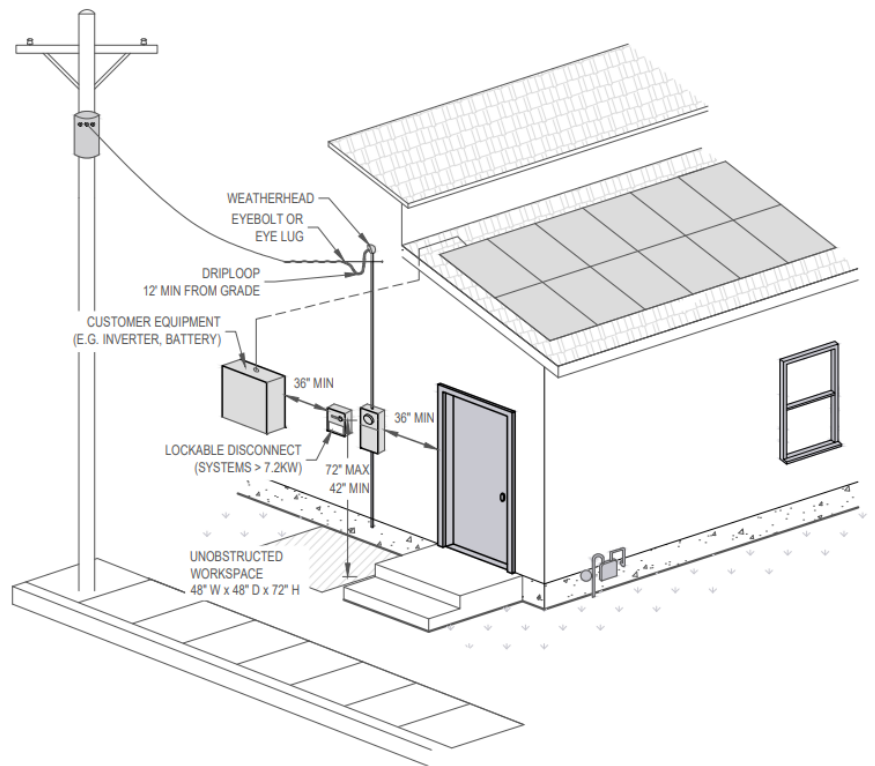

Figure 7. Meter Clearances from Customer-Owned Renewable and Storage Equipment (STD-D-2226B)
- PGE's bidirectional meter must be a minimum of 36" from the customer's equipment (inverter, production meter, etc.), as shown in Figure 7. Any new application and system expansion must meet this requirement. Comprehensive meter clearances are outlined in Section 5, Table 13.